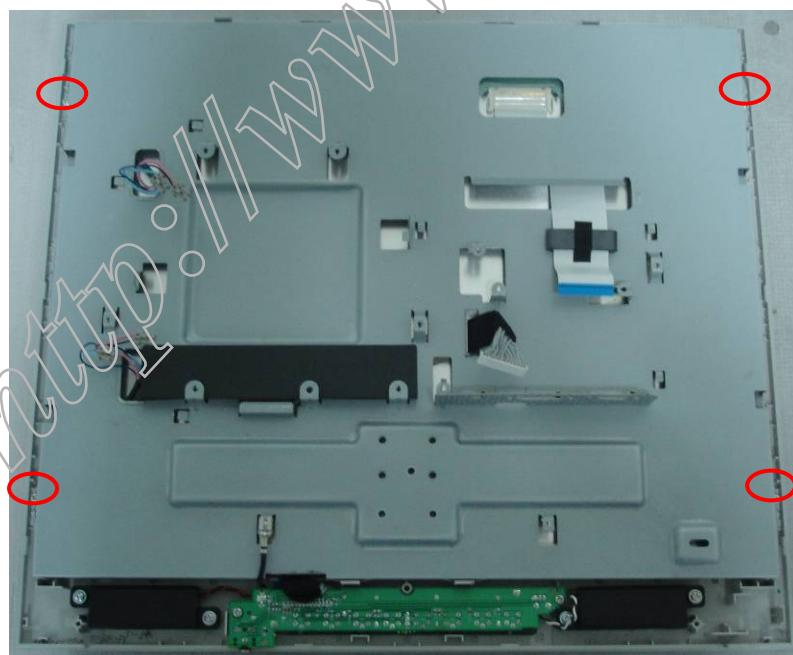

Fig.8
**8. Remove the bezel as Fig.8.**
Remove the 4 screws as Fig.8 to remove the bezel.